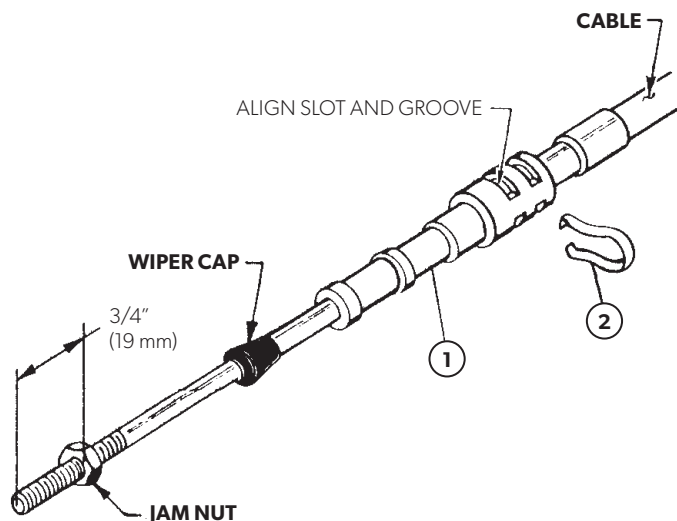
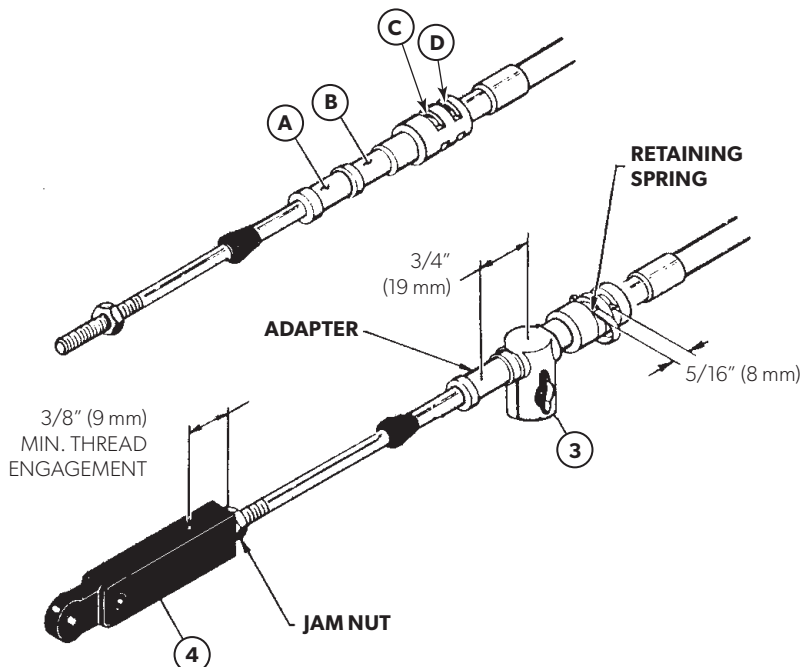

Figure 2.
Figure 3.
2. Slide one adaptor (item 1) over engine end of each cable until slot in adaptor hub is aligned with groove in cable end fitting, as shown in figure 2. Insert retainer spring (item 2) into slot as shown, and snap into place. Use position "C" for 1978 model year engines, with the exception of shift for 40 HP outboard. In this case, the spring should be in position "D" (see figure 3). For other model year engines, consult the manufacturer's manual for cable travel dimensions. Make sure retainer spring is fully seated locking adaptor securely to cable.
- Place an anchor nut (item 3) over undercut "B" as shown in figure 3. Press firmly on anchor nut to snap it into position. Replace wiper cap over swivel tube as shown.
In order to meet the proper dimensional requirements specified by the motor manufacturer for different installations, a number of adjustments are possible (see figure 3). The anchor nut may be placed in one of the two grooves in the adaptor, providing an adjustment of 3/4" (19 mm).